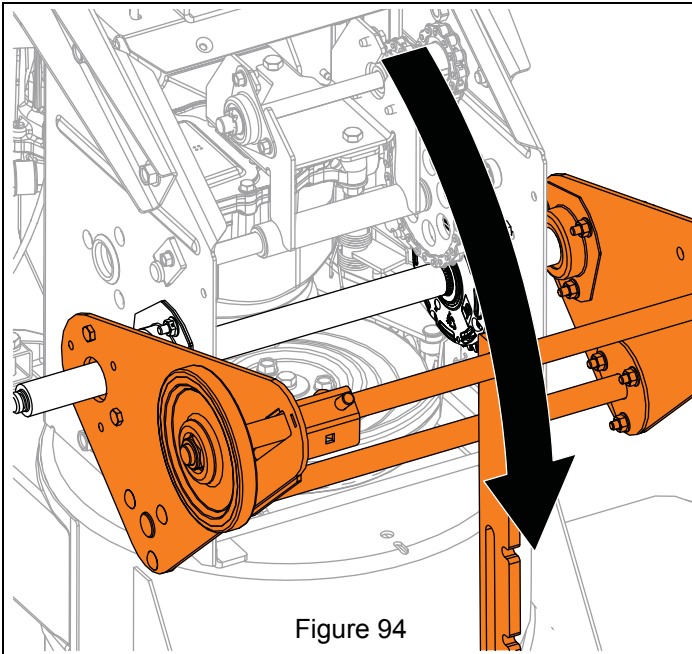

Figure 94
9. Slowly rotate track carriage assembly as far down as possible. See Figure 94.